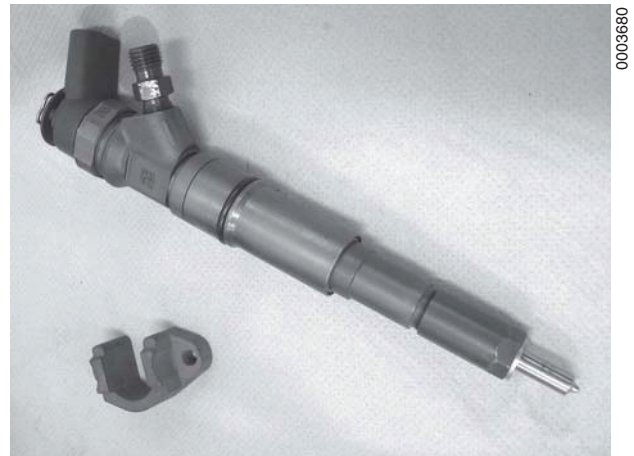

Figure 6-10
7. Remove two nuts retaining fuel injector flange. Remove fuel injector and flange (**Figure 6-10**). **NOTICE:** NEVER disassemble the fuel injector. Replace the entire unit as necessary.